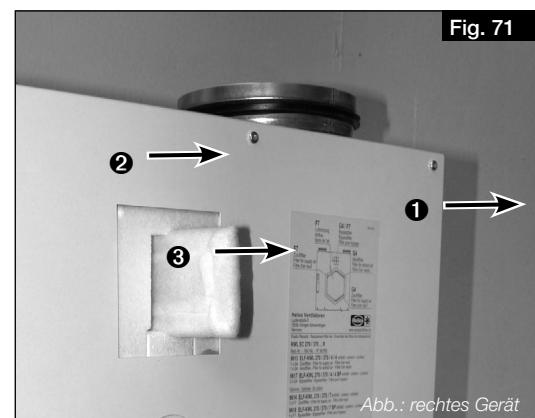

Fig. 71
2. Pull intake air filter **1** to the front and replace (see Fig. 71).
3. Pull extract air filter **2** (incl. frame) to the front and replace (see Fig. 71).
4. Optional: Pull fine/pollen filter (ePM1 50 %) **3** incl. frame to the front and replace (see Fig. 71).
① **Confirm via the easyControls 3.0 software or KWL-BE Touch.**